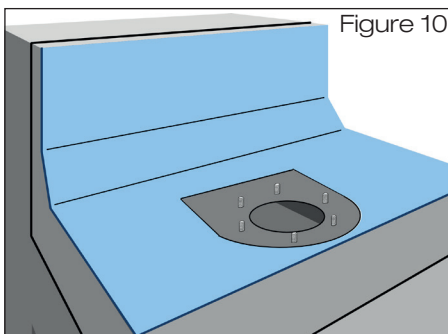

Figure 10
- 2.2 Unroll the first layer of the **roof sealing sheet** over the scupper drain, and make a cut-out in the region of the fixed flange (Fig. 10).